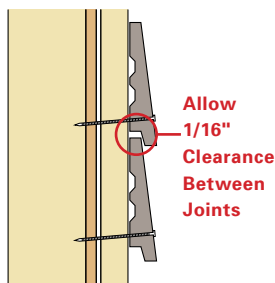

Fig. 27
- Ensure siding boards are installed allowing for a 1/16" clearance between all joints (See Figure 27)